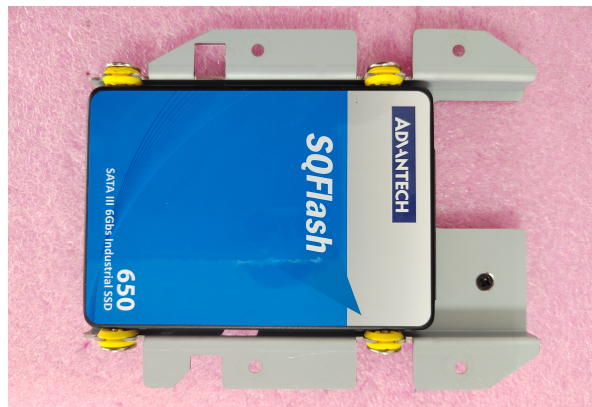

Figure 2.15
2. Using four screws from the accessory box, attach the SSD bracket with SSD onto the reinforcement plate (Figure 2.15).